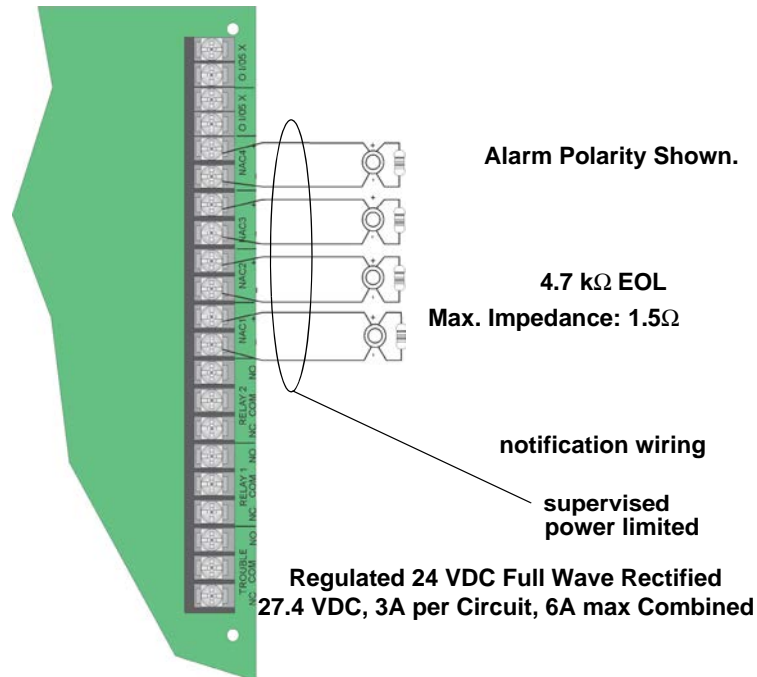

Figure 4.51 Class B Notification Appliance Circuit Wiring
1. Wire Class B Notification appliances as shown in Figure 4.51.